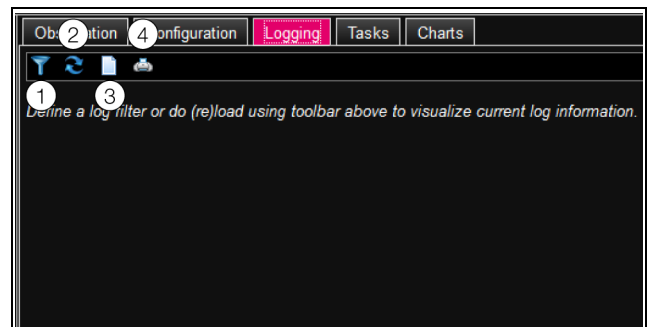

Fig. 41: Logging tab
- Click on the first symbol on the left (fig. 41, item 1).
- Click on the second symbol from the left (fig. 41, item 2).
- Click on the fourth symbol from the left (fig. 41, item 4). Once again, it will take a moment until all events have been reloaded from the PDU. The refreshed list with all events is then displayed in a separate window, and a "Print" dialog will open.
- Click on the third symbol from the left (fig. 41, item 3). All entries are cleared from the display and the same note as when selecting the **Logging** tab will appear.